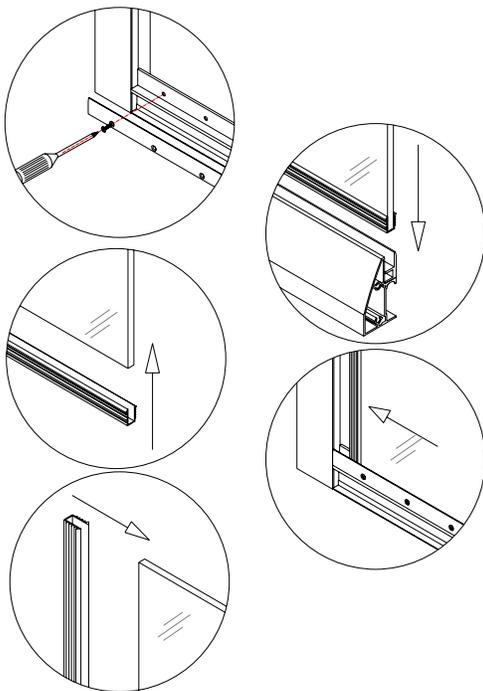

Fig 3
5. Loosen the stationary glass aluminum holders on both top and bottom guide rails. Place U shape gaskets on the sides of the stationary glass panels then push them into the channel of the guide rail and vertical profiles. (You can apply a liquid soap on the outside surface of the U shape gasket to help to slide glass into the channel). Do not fasten the screw in case you will need to adjust the stationary glass later; (fig 3 & 4)